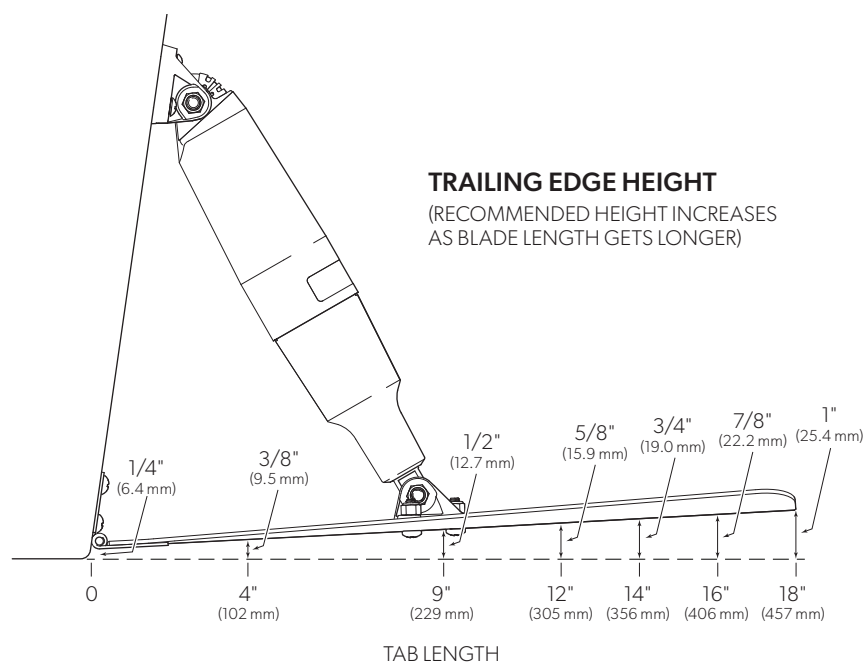

Figure 14-4.
- To ensure the tabs do not drag when retracted, they must be tilted up from the hull level. The longer the tab, the greater the height above the hull level at the trailing edge of the tab, as shown in figure 14-4.